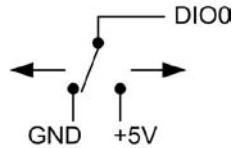

Figure 7. Schematic showing switch detection by digital channel DIO0
You can use the USB-1208HS digital I/O terminals to detect the state of any TTL-level input. Refer to the schematic shown in Figure 7. If you set the switch to the +5 V input, DIO0 reads *TRUE* (1). If you move the switch to GND, DIO0 reads *FALSE* (0).